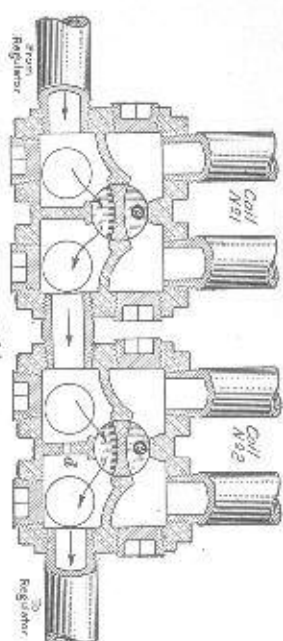
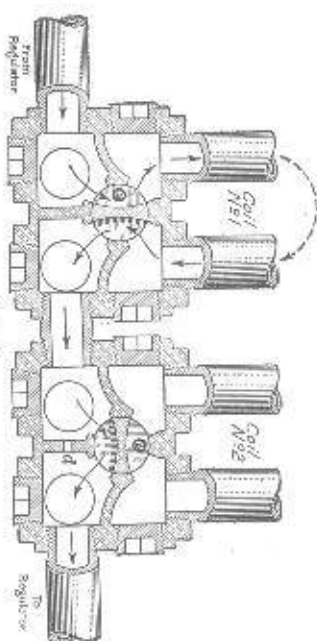

FIG. 14
FIG. 15
any one or more of the other coils. How this may be accomplished is shown in Figs. 14 to 17, inclusive. The figures
In Fig. 14, both valves are closed so that the steam short-circuits across both cut-out valves and does not go through either coil. In Fig. 15, the cut-out valve on the left is open so
15. Cut-out valves are made in No. 1 style as illustrated in Fig. 14 in connection with coil No. 1, and in No. 2 style as illustrated in Fig. 14 in connection with coil No. 2. In the No. 2 style there is, as shown, a $\frac{1}{2}$ -inch drainage hole *d* in the part-
When a cut-out valve is closed, any condensation in the coil will escape through the $\frac{1}{2}$ -inch drip hole *e*, Fig. 14, in the bottom of the heater-coil end of the valve, since the drip hole *e* is open in the closed position of the valve.